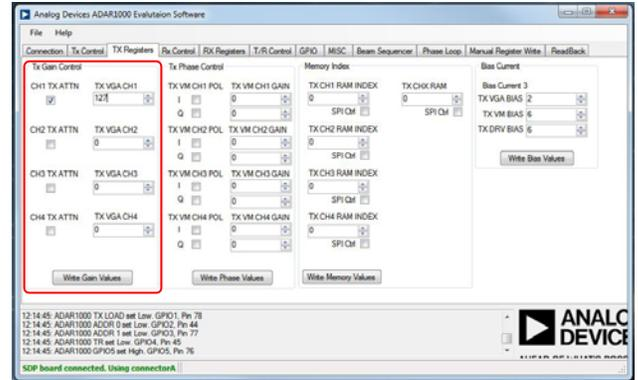

Figure 11. Setting Transmit Channel 1 to Maximum Gain in Transmit Gain Control with All Other Channels at Minimum Gain
1. Click the **TX Registers** tab (see Figure 11).